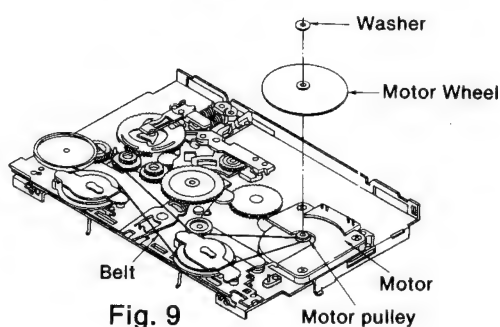

Fig. 9
2. Remove the washer and motor wheel to remove the belt from the motor pulley. (See Fig. 9.)